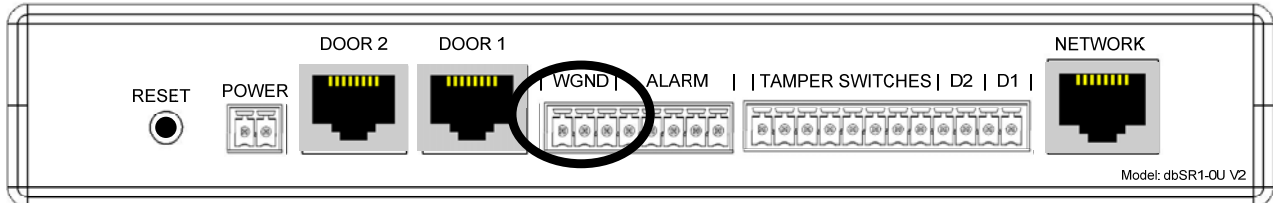

Figure 20a
- The Wiegand Output terminals are shown in Figures 20a and 20b.